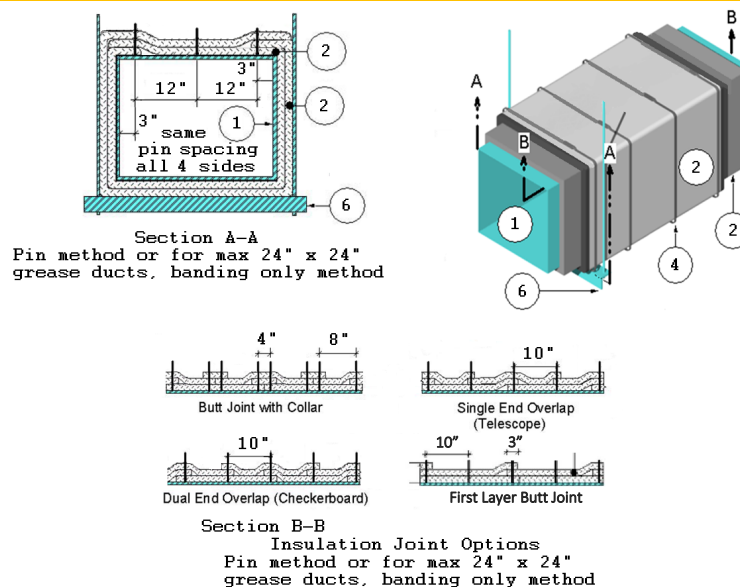
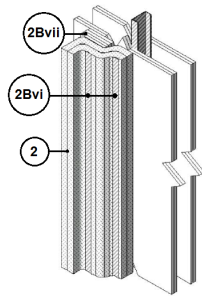

Figure 1. EFS Duct+ Grease Duct Insulation System
Figure 6. Wall Anchoring
- A. **STANDARD INSTALLATION** – Apply both layers of duct insulation with transverse and longitudinal joints as shown in Figure 1. For rectangular grease ducts (Item 1), locate inner layer longitudinal joints (Figure 1) at a
corner of the grease duct (Item 1), and offset the outer layer joint (Figure 1) to a different corner. For horizontal sections, ensure the longitudinal joints are placed at the top corners. For round grease ducts (Item 1), locate inner layer longitudinal joints and outer layer longitudinal joints 90° apart; for horizontal sections, center the joints on the top of the grease duct (Item 1). Use a min. 4 in. overlap at all insulation joints with the exception of first layer butt joint wrapping described as follows. Optional: for rectangular ducts only, compressed butt joints may be used on the first layer and horizontal sections only, with a min. 3 in. overlap on the second layer (See Figure 1). Transverse butt joints with collar shall use a min. 8 in. wide collar with min. 4 in. overlap on each side of the butt joint. Use blanket, available in various widths, fully encapsulated with a polypropylene foil scrim. Cover all visually exposed ends and edges of duct insulation with nominal 3 in. wide aluminum foil tape. Tape all joints (inner and outer layers; longitudinal and transverse) with nominal 3 in. wide aluminum foil tape (reference Figure 2). Use aluminum foil tape certified to comply with the following criteria:
- iv. Insulation Anchors: Floor/Ceiling Application – Use min. 16 GA, min. 1-1/2 in.-wide steel sheet strips, and min. 1/4 in. diameter hex-head concrete anchors, spaced to match the longitudinal pin spacing shown in Figure 1. Position the floor/ceiling anchors over a min. 6 in. wide horizontal flange of the flared duct insulation (Item 2) which is in contact with the floor/ceiling assembly. Position the anchors such that the duct insulation extends a min. 1-1/2 in. beyond the anchors. Refer to Figure 6.
- v. Insulation Anchors: Wall Application – Use min. 16 GA, min. 1-1/2 in. wide steel sheet strips. For concrete or masonry wall, fasten the duct insulation (Item 2) to the wall using min. 1/4 in. diameter, hex-head concrete or masonry anchors as applicable, and spaced to match the longitudinal pin spacing shown in Figure 1. For gypsum wall, use min. 1/4 in. diameter hex-head self-drilling screws spaced to match the longitudinal pin spacing shown in Figure 1. Position the wall anchors over a min. 6 in. wide flange of the flared duct insulation (Item 2) which is in contact with the wall assembly. Position the anchors such that the duct insulation extends a min. 1-1/2 in. beyond the anchors. Refer to Figure 6. For steel stud and gypsum wall attachment, ensure that studs are positioned in line with the wall anchors.
- vi. Gypsum Anchor Protection Boards: For installation onto steel stud and gypsum wall, use three layers of 6 in. wide, 5/8 in. Type X gypsum board strips, mounted vertically onto the gypsum wall under the duct insulation (Item 2) and adjacent to the wall anchors (Item 2Bvi) as shown in Figure 6. Attach the gypsum wall anchor boards with #10 drywall Type G laminating screws spaced 24 in. on center (oc). Secure the insulation blanket (Item 2) to the gypsum wall anchor board using wall anchors (Item 2Bvi) consisting of min. 16 GA, min. 1-1/2 in. wide steel sheet strips and #10 drywall Type G laminating screws spaced to match the longitudinal pin spacing shown in Figure 1.